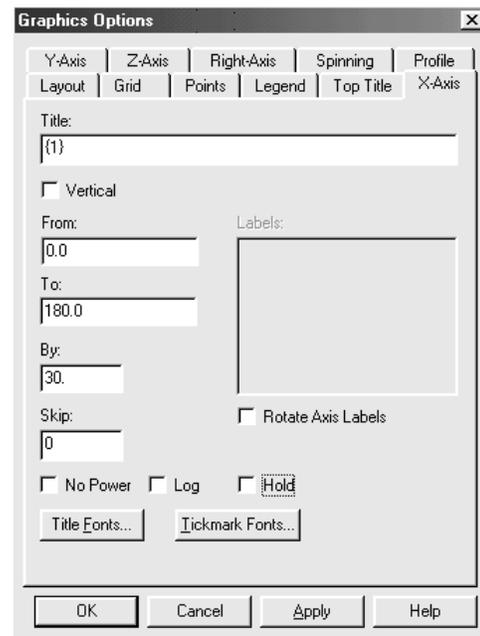

Figure 5-17. X-Axis Tab Page
4. Left click on the graph, right click to display the pop-up menu, then left click on Graphics Options to display the Graphics Options dialog box opened to the *n* Axis tab page (*n* indicates the selected axis). Figure 5-17 shows the X-Axis tab page; however, all three pages are identical except for their title.